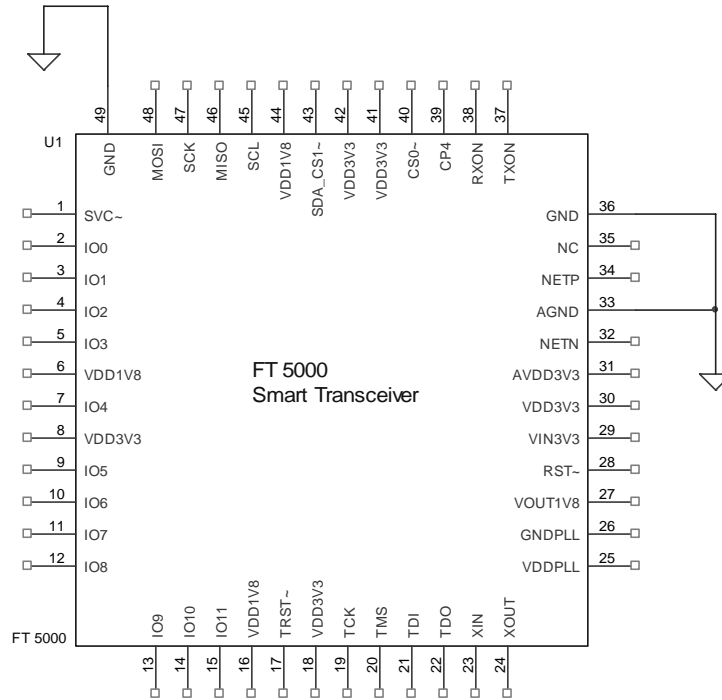

Figure 14. Connections for the Ground Pins
Connect the chip’s pad (pin 49) to logic ground. Also connect the **AGND** pin (33) to an analog ground, if different from the logic ground. In general, the two grounds are the same. **Figure 14** on page 39 shows the connections for the ground pins.